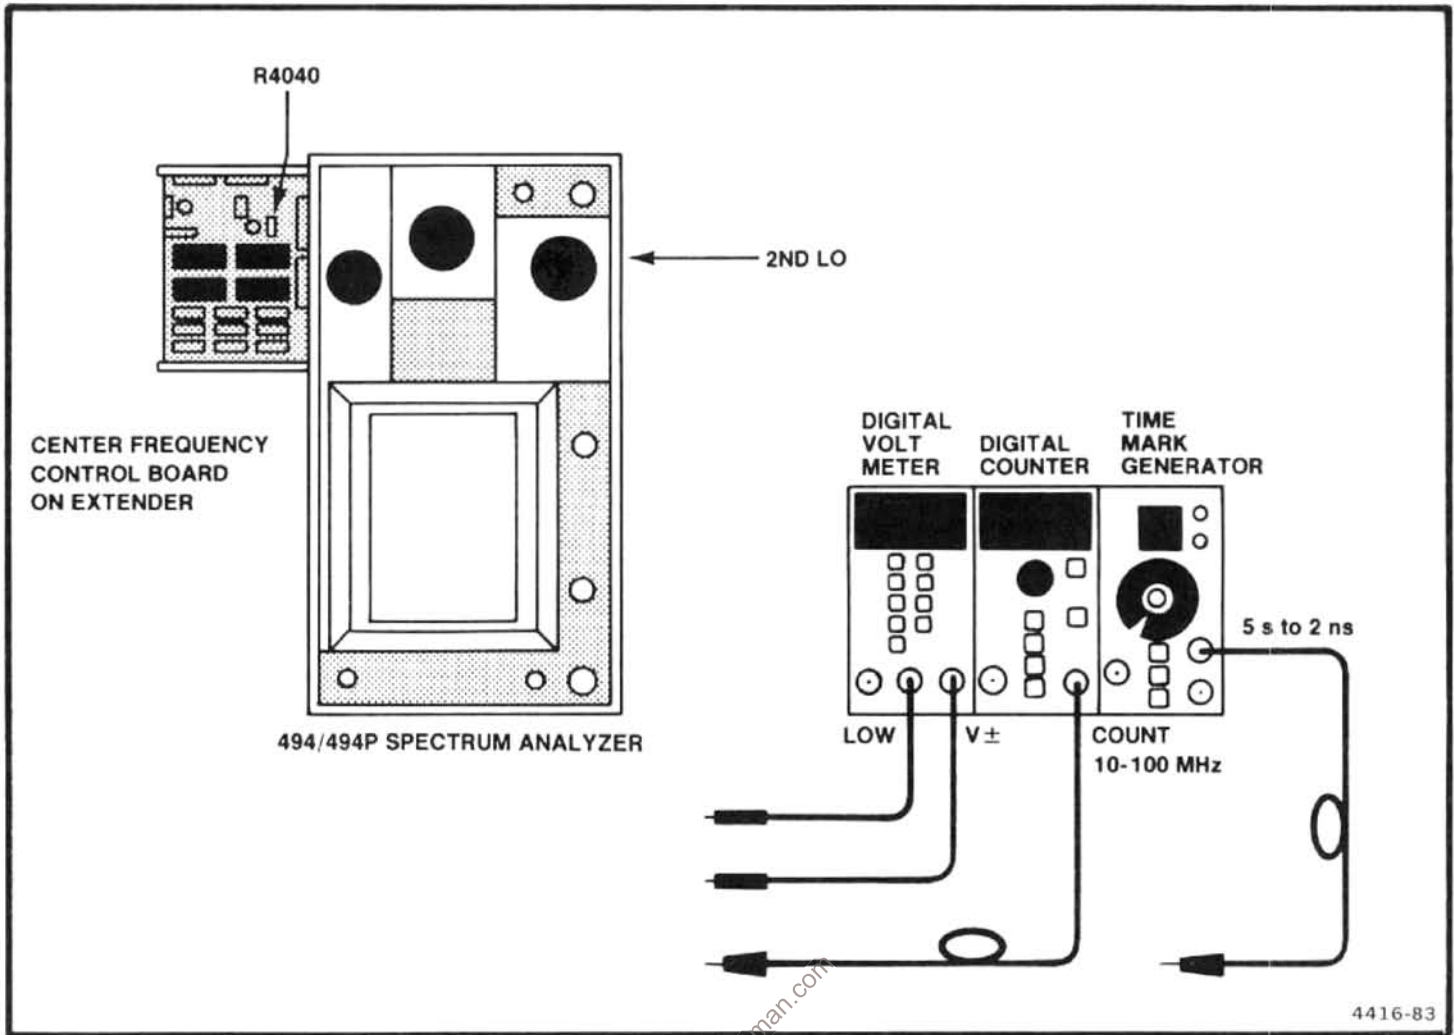

Figure 6-22. Test equipment setup for calibrating the Phase Lock section of the 2182 MHz 2nd LO.
a. Test equipment setup is shown in Figure 6-22. Remove and install the Center Frequency Control board on an extender board.